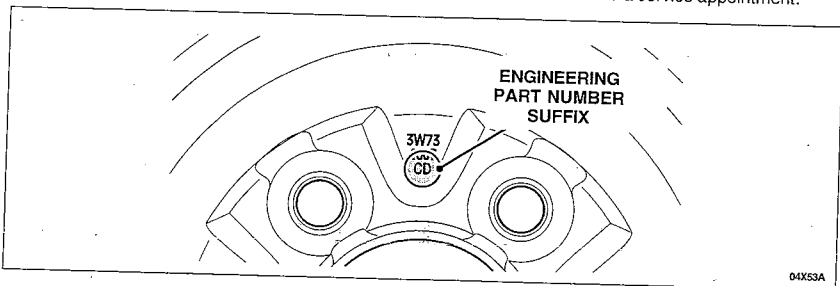

FIGURE 1
1. Remove the hub caps or, if equipped, the full wheel covers by gently prying off the center cap, then loosening the five (5) plastic nuts securing the cover to the lug nuts.
2. Inspect the engineering part number suffix on all wheels including the spare. See Figure 1. The engineering part number is located on a raised surface on the outside face of the wheel between two lug bolt holes. The suffix is the last two letters of the part number.